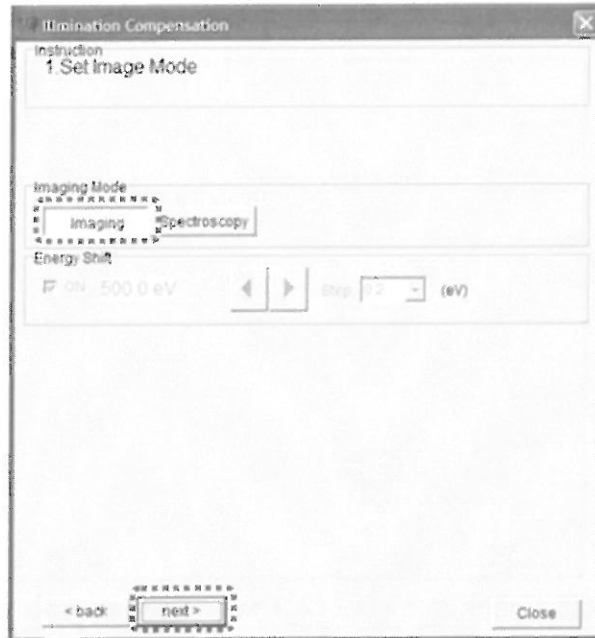
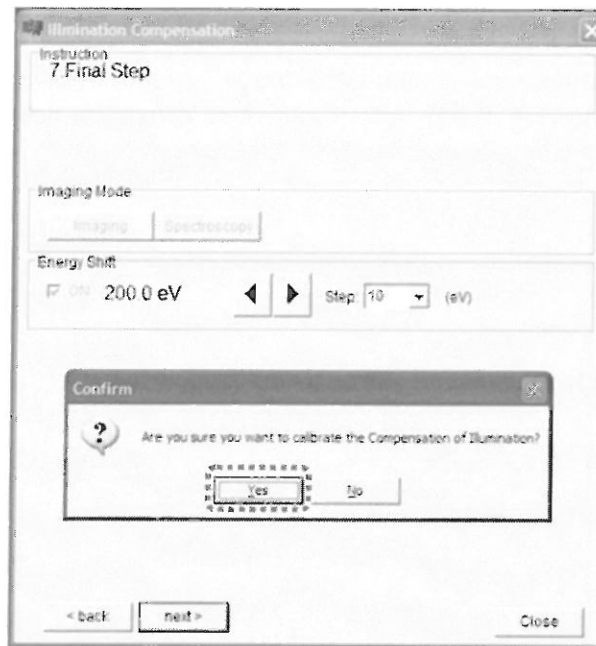

Fig. 5.49 Illumination Compensation 1 . Set Image Mode
Fig. 5.55 Illumination Compensation Completion
Calibration of Illumination System Compensation Follow the instructions of the wizard and continue the process (Fig. 5.49 through Fig. 5.55).
1. Follow "Instruction – 1. Set Image Mode", select the Imaging mode by pressing the **Imaging** button (Fig. 5.49). After the selection, press **next** to proceed.
- Clicking the **next** button in procedure 6 will display the Confirm window. Click **Yes** and complete the calibration (Fig. 5.55).